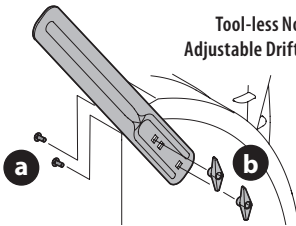

Figure 44
1. Remove two carriage bolts (a) and wing nuts (b) that secure each drift cutter, and remove them from the sides of auger housing (Figure 44).
2. Turn the drift cutters around and position them as shown in Figure 44 to the outside of the auger housing.